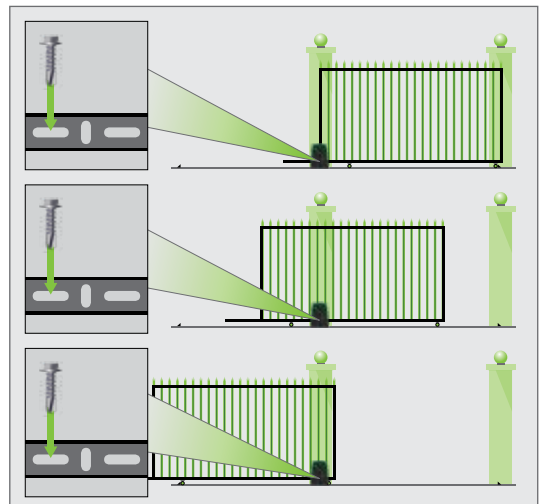

FIGURE 61
**Fit an additional fixing screw through the horizontal slots to secure the rack to the gate directly above the Pinion when the gate is in the closed, pedestrian and open positions as shown in Figure 61.**